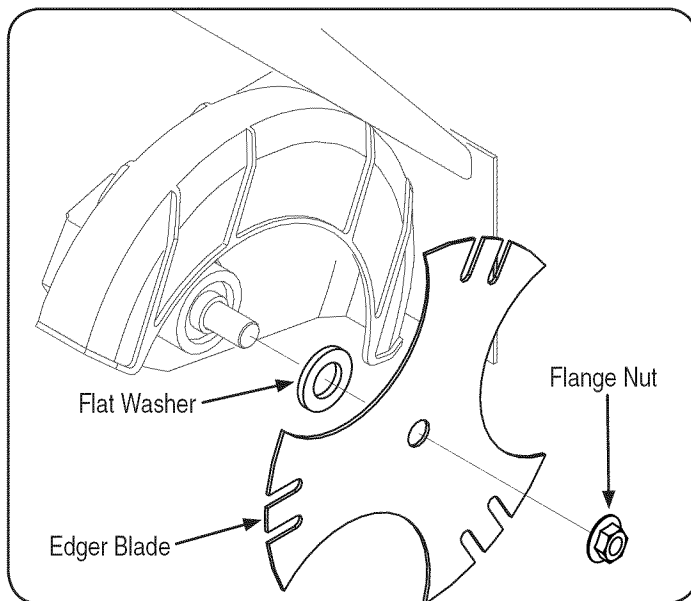

Figure 13
1. Use two wrenches (one wrench to prevent the hex bolt head from spinning and the other to remove the flange nut) to remove the edger blade. Refer to Figure 13.